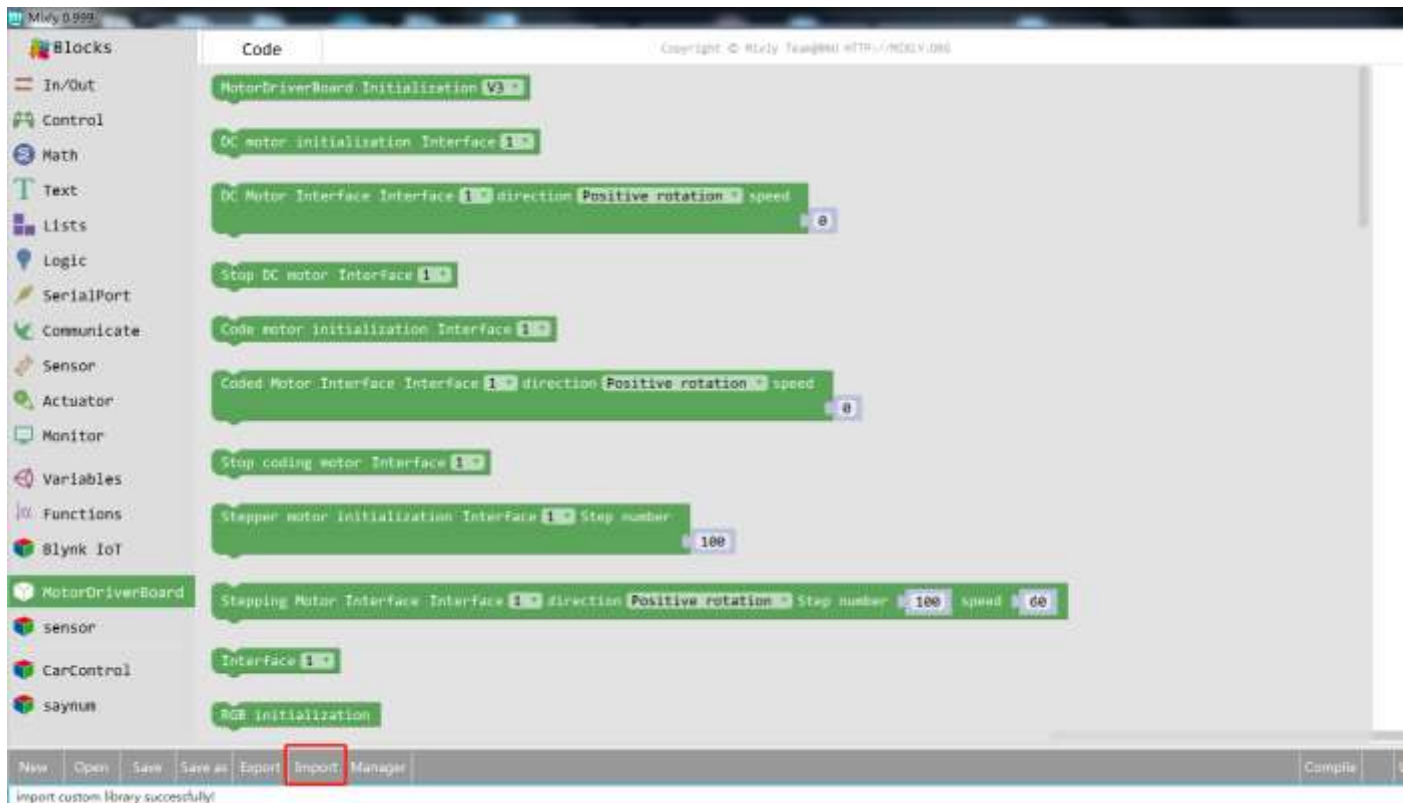

Figure 2-1-1
- 2) Open the mixly software and click "import", as shown in figure 2-1-1;